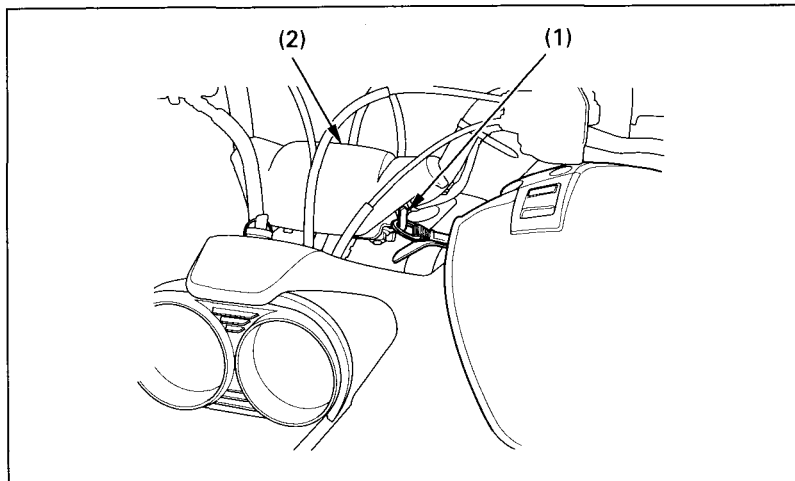

Fig. 2-20
The helmet holder (1), (Fig.2-20) is a hook below left side of the handlebar cover (2). To use the holder, hang the D-ring on your helmet strap over the hook. Use the helmet holder only when the FOURTRAX is parked.